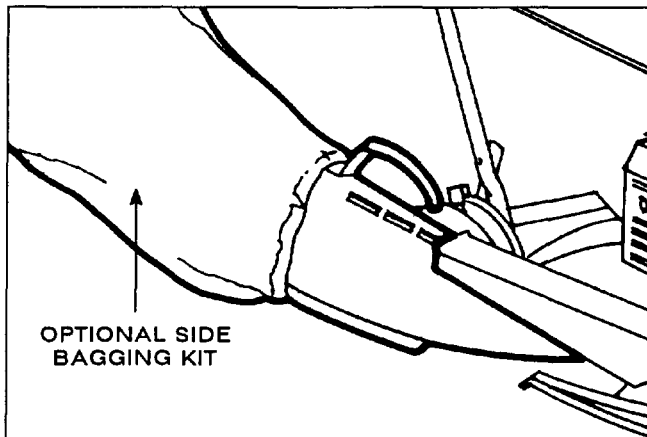

Figure 21
1. **Side Bag Kit (Part No. 47-6510)**—Side bag kit (Fig. 21) lets you bag lush grass in spring. In the fall, bag leaves while you mow to eliminate the hand-blistering raking job.